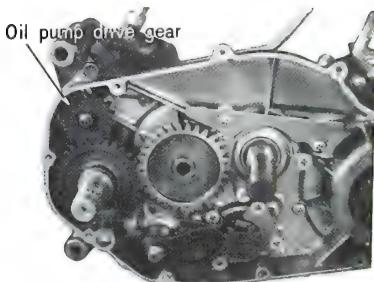

Fig. 5-2-31 Oil pump drive gear
- 6) After tightening crankcase fitting screws, fit the gear shifting pawl, kick idle gear, oil pump drive gear and kick starter gear. For precautions as to fitting the oil pump drive gear, refer to Fig. 5-2-31.